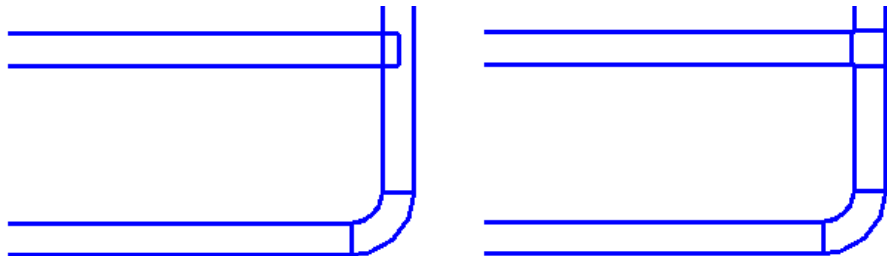

Figure 2–51
- When working with MEP elements (such as ducts), the offset element might not automatically connect to other nearby elements, as shown on the left in Figure 2–51. Drag the end of the new element away from the other element and then back again. It should connect as shown on the right in Figure 2–51.